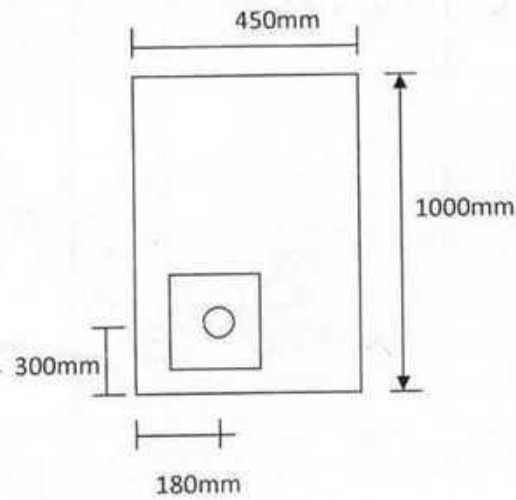

Figure 4
6. (a) Determine the bearing plate area required for the tendons shown in figure 4. Follow the specifications of the post tensioning institute for allowable bearing stresses in concrete. Use $f'_{ci} = 28$ MPa, $f'_c = 35$ MPa, Maximum jacking force = 1700 kN, Force at service load = 1300 kN. Diameter of hole = 120 mm. (17)